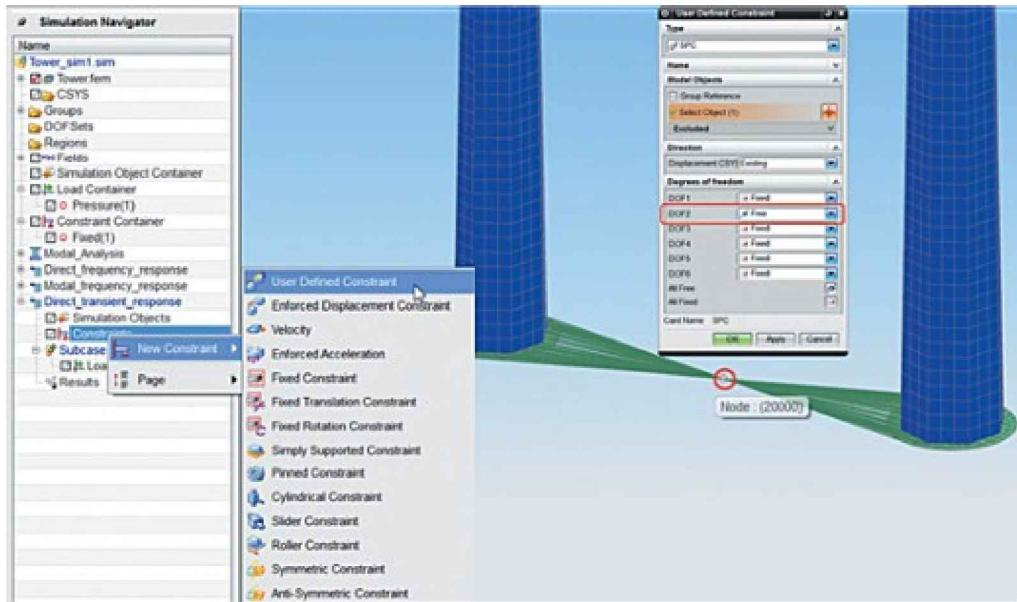

Figure 3.36. Specifying a *UserDefined(1)* constraint
5.1. To specify degree of freedom constraint conditions for the structure, in the model tree of the Simulation Navigator tab, right-click *Constraint container* to display the shortcut menu. In the submenu, choose the *User Defined Constraint* command. In the dialog box, specify the following (Figure 3.36):